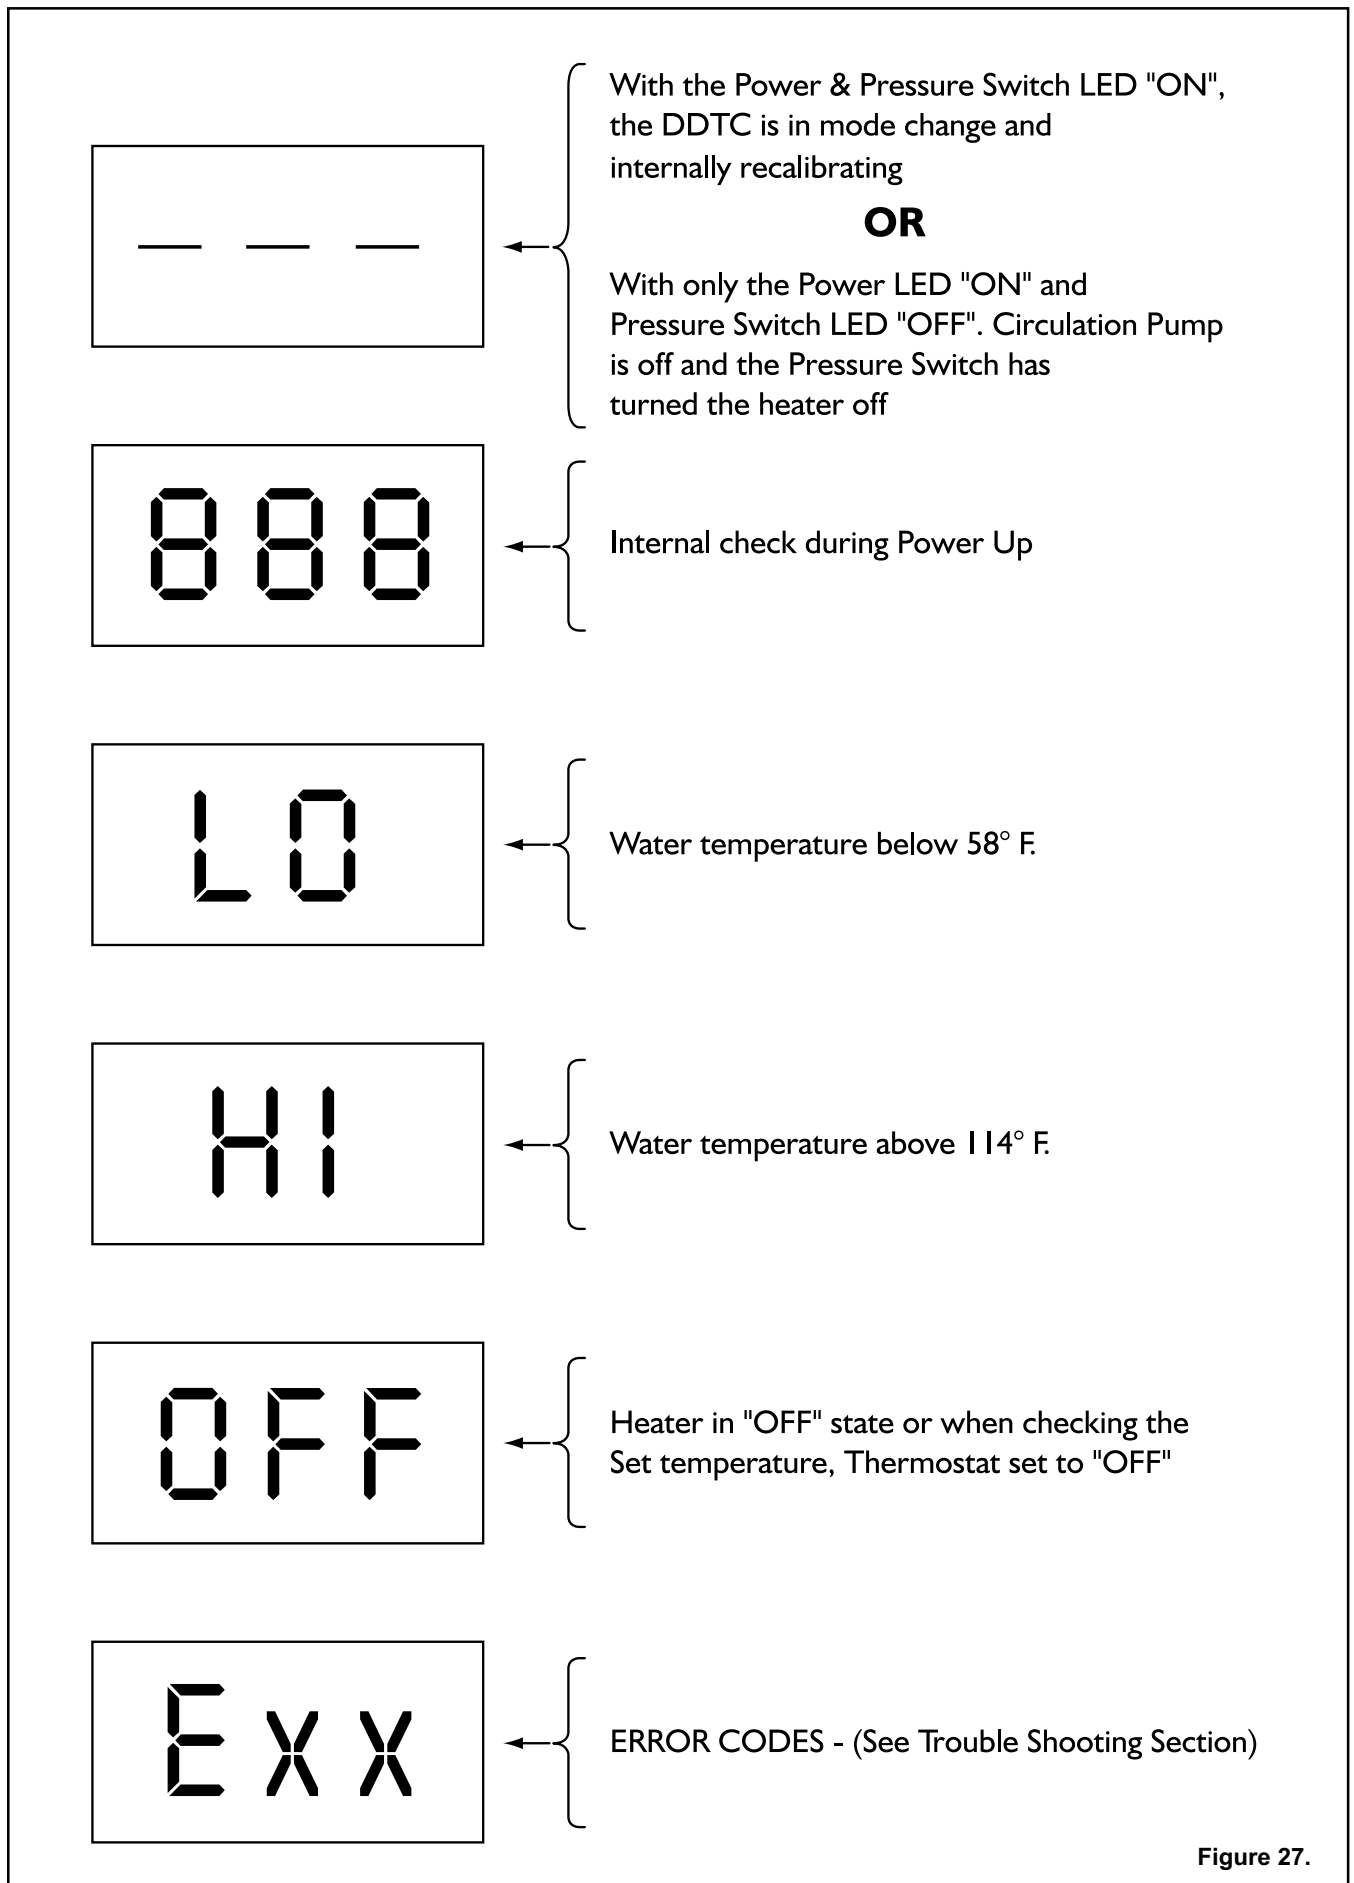

Figure 27.
The MiniMax NT LN Heater comes from the factory preset with a pool temperature setting of 78° F. and a preset spa temperature of 100° F., and in the off mode setting. Once the power is turned on, the DDTC board will do a self diagnostic internal check, during this time the display will first read “888”, then the display will switch to three dashes “- - -”, this process takes approximately ten (10) seconds. The DDTC will then illuminate the “Power” LED and “Off” LED, see Figure 27.
The DDTC temperature display contains three LED's with a decimal point between the first and second, this display is also used to display an error code if for some reason there is a failure within the heater control system or a DDTC internal fault. The DDTC will display the actual temperature or set-point temperature or OFF, as selected by the user. When DDTC detects an error, the display will show Exx, see **Figure 27**, where Exx is the error code of DDTC fault, see **Table 11**. Codes 1 through 9 indicate a “soft lockout” error that means after these errors are fixed, the heater will resume normal operation and restart immediately. Code ERR indicates a “hard lockout” error that means after these errors are fixed, you need to reset the power of the heater through the switch on the bottom of the electrical junction box on the right side of the cabinet.